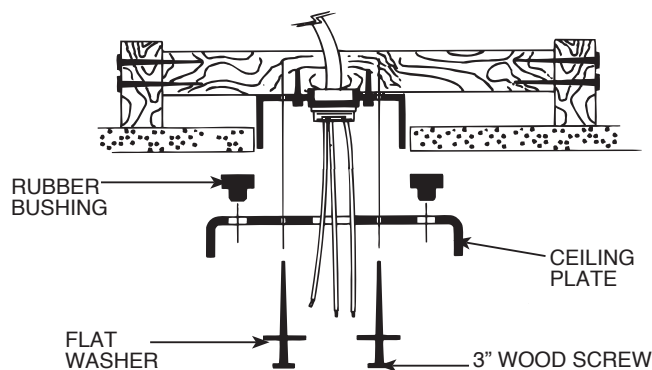

FIGURE 4A. Installing Ceiling Plate
B. Thread the lead wires through the opening in the ceiling plate and install the ceiling plate to the 2 x 4 brace which supports the outlet box. Use (2) #10 wood screws 3" long and (2) flat washers for mounting. Drill (2) pilot holes for the mounting screws 9/64" diameter. See Figure 4A.